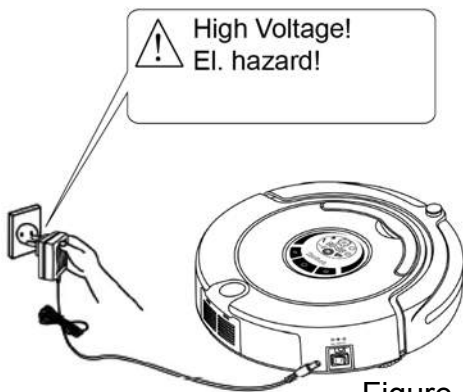

Figure 1
- 2) Connect the output terminal of the adaptor with DC socket of the main body while using the adapter for charging (Refer to Figure 1).